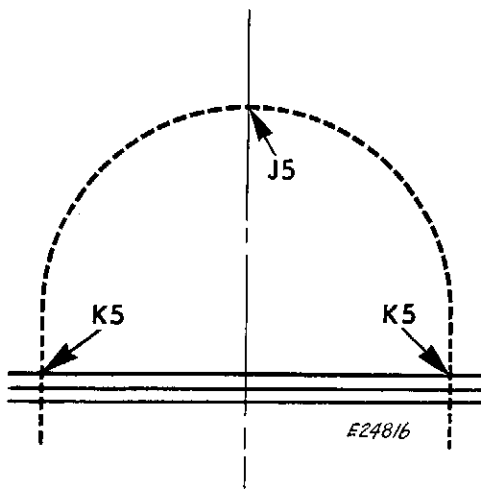

Fig. 82. Correct Path of Needle Pendulum Movement
2. The needle should reach the peak **J5**, **Fig. 82** of its ascent midway between the two extreme positions **K5**, **Fig. 82** of the needle.
3. When the needle vibrator lever fork **Z4** reaches the opposite end of its swing, the pendulum movement should be completed as shown in **Fig. 82**.
4. The needle should begin and end its **pendulum movement** at about the same height above the throat plate as shown in **Fig. 82**.
13. Check pendulum movement of needle bar as described on **page 53** and as shown in **Fig. 82**.